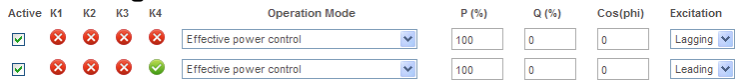

Fig. 7-17: Configuration of the value of long-distance active power
- **Effective power control:** If this mode is selected, the PMU only regulates the active power P(%) according to received signals. Therefore, you only have to configure P(%), as shown in Fig. 7-17.